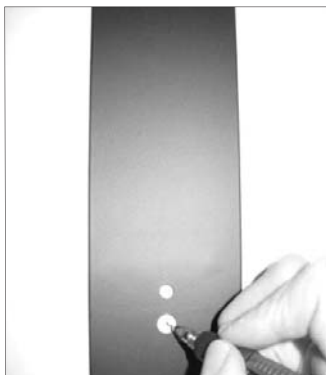

Figure 2
Step 6 Hold backplate to wall in desired position, align holes with J-Box, and mark holes at ends of backplate for installation of wall anchors. (Fig 2) Remove backplate